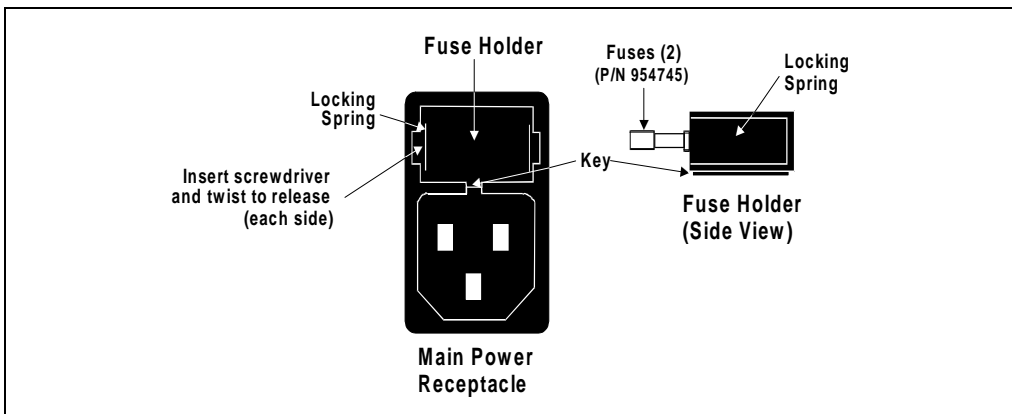

Figure 5-6. Main Power Fuse Holder
2. The fuse holder is part of the main power receptacle on the DX-80 rear panel. Note the recessed lock located on each side of the fuse holder (see Figure 5-6).